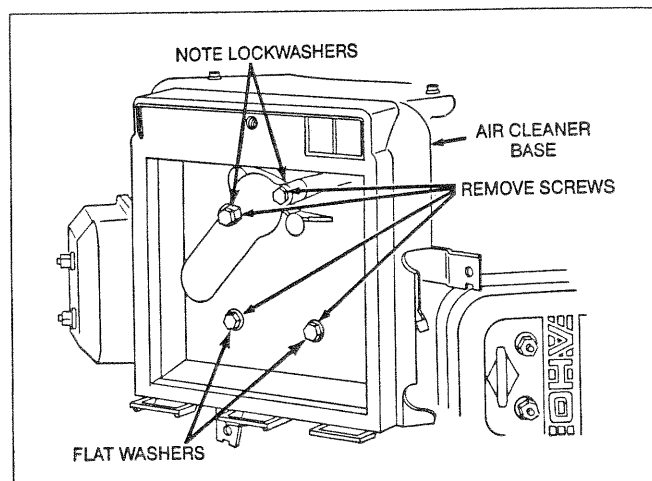

Figure 123. Air Cleaner Base Removal
- See Figure 123. Remove air cleaner cover, pre-cleaner and cartridge.